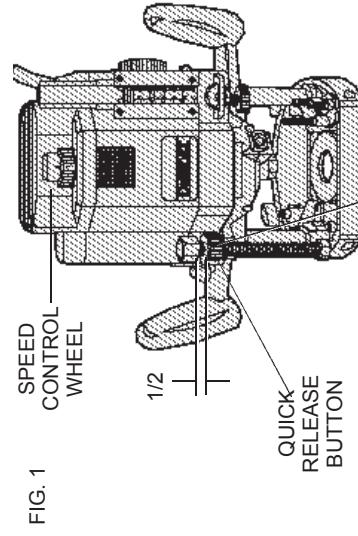

FIG. 1
**NOTE:** Before installing a router bit in your unit, position the tool so that the collet is easily accessible. To do this, rotate the height stop thumb wheel, shown in Figure 1, counterclockwise until it is about 1/2" from the top of the threaded height stop rod. Raise the plunge